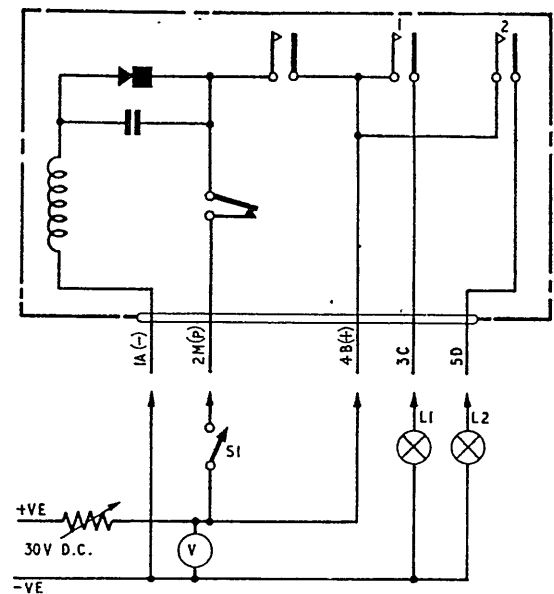

Fig. 1. Switch, Type D8403, circuit diagram and test circuit
1. This time delay switch has two pairs of circuit contacts, the circuit diagram (fig. 1) shows the switch internal wiring and the associated test circuit. The total motor run and circuit contact timing is detailed in para. 3.